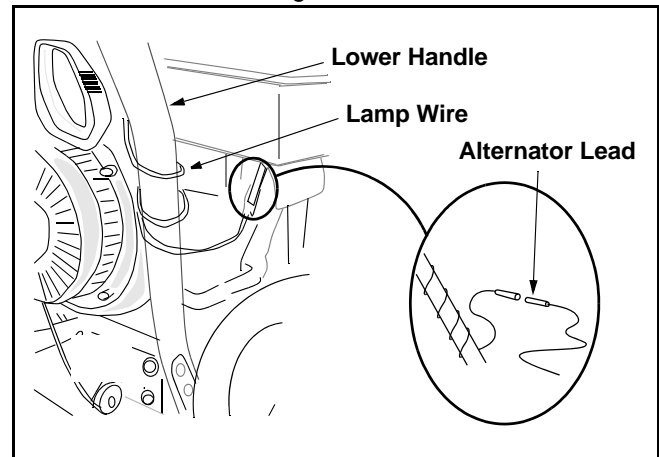

Figure 6
- Plug the wire from the headlight into the wire lead coming from the right side of the engine, beneath the fuel tank. See Figure 6.